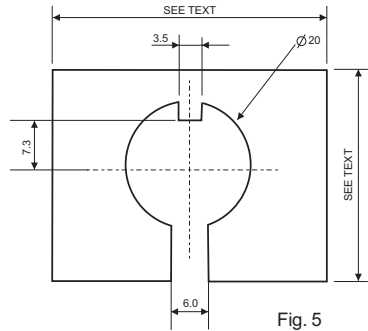

Fig. 5
3. A polarising plate can be made in order to prevent rotation of the sensor - an example design is given on page 3 (Fig.5).